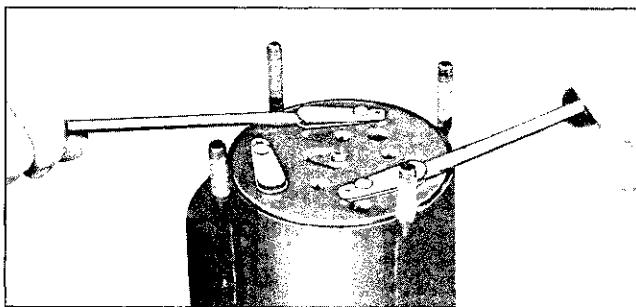

Fig. 1A-19 Removing Discharge Valve Plate
9. Carefully remove rear discharge valve plate assembly by prying up on assembly (Fig. 1A-19), and examine discharge valve reeds and seats. Replace entire assembly if excessively scored or if any one of the three reeds is broken or seats are damaged.